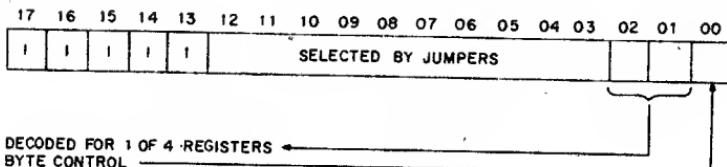

Figure 6-11 Device Register Select Address Format
**Inputs:** The M105 Module input signals consist of 18 address lines,  $A_{<17:00>}$ ; 2 bus control lines,  $C_{<1:0>}$ ; and a master synchronization MSYN line. The address selector decodes the 18-bit address on lines  $A_{<17:00>}$  as described below. This address format, used for selecting a device register, is shown in Figure 6-11. Note that all inputs are standard bus receivers.